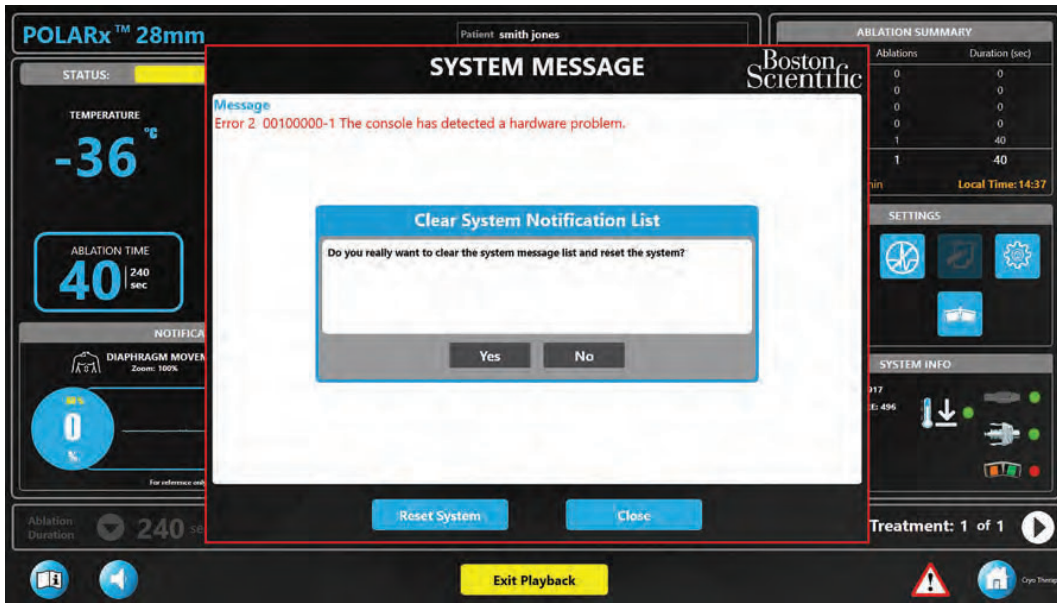

Figure 21. Clear System Notifications List Window
- Press the **Reset System** button to clear all active messages (see Figure 21).